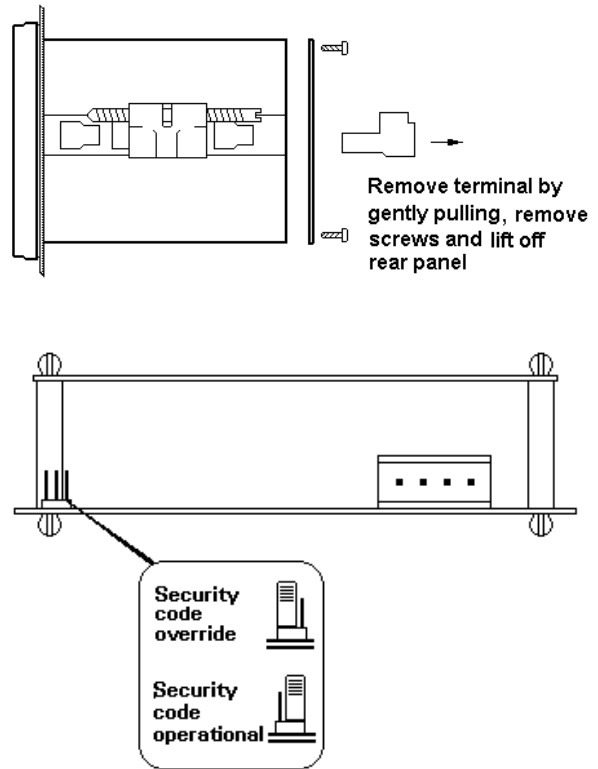

Fig 7 Location of security code override link
To gain access to the security code link, remove the instrument terminal block by gently pulling, unscrew the four corner screws securing the rear panel and lift off the panel which will reveal the link as shown in Fig 7.
link in override position. See Fig 7.
- a. Remove the rear terminal block and the rear panel as shown in Fig 7.